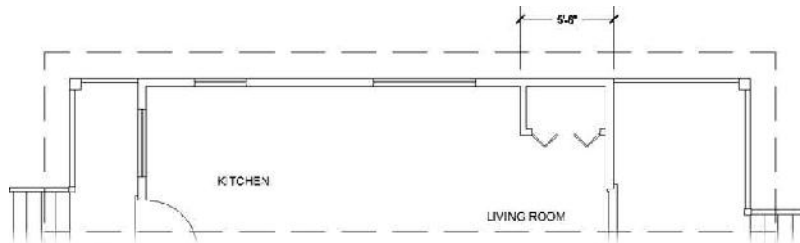

FIGURE 12.17: The result of zooming and panning for a view of the top of the floor plan
2. Zoom out, and pan until you have a view of the upper wall and roofline, with space above them for dimensions (see Figure 12.17).